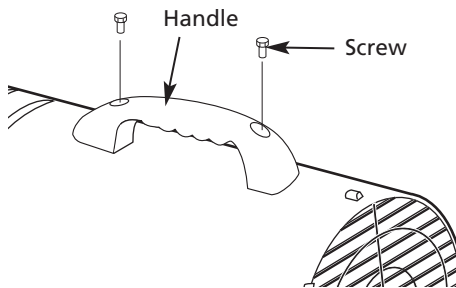

Figure 7 – Handle Installation 3VE48A and 3VE49A only
1. Align the holes in the upper housing with the two mounting holes on the handle as shown in Figure 7.